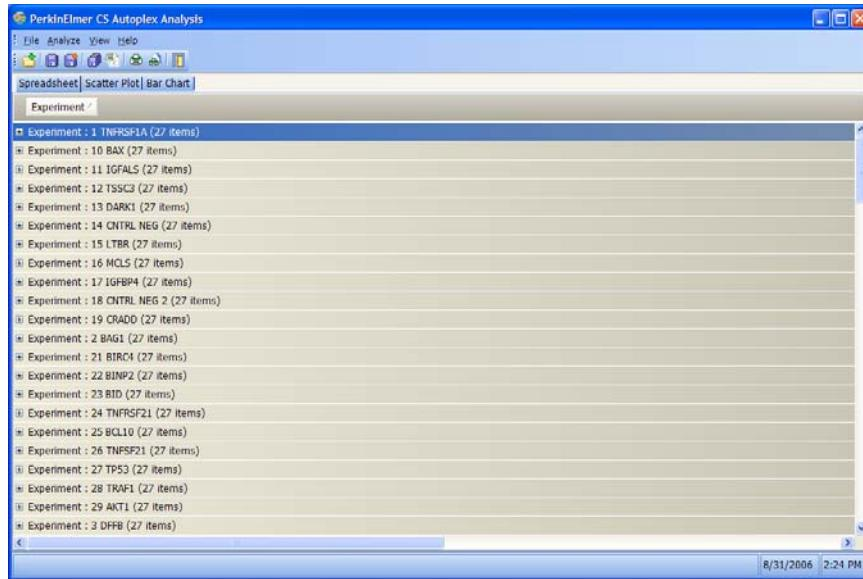

Figure 2-9 Data Columns Grouped by Experiment
2. The data is grouped by the column and “collapsed.” The example in Figure 2-9 shows the data grouped by *Experiment*.